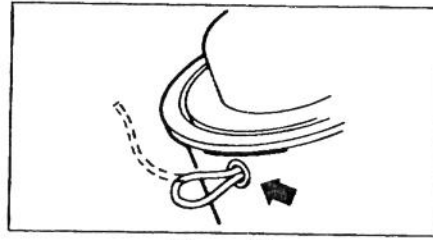

Figure 14
10. After each use, either retape or loop the line through the eyelet (see figure 14) to prevent unraveling.